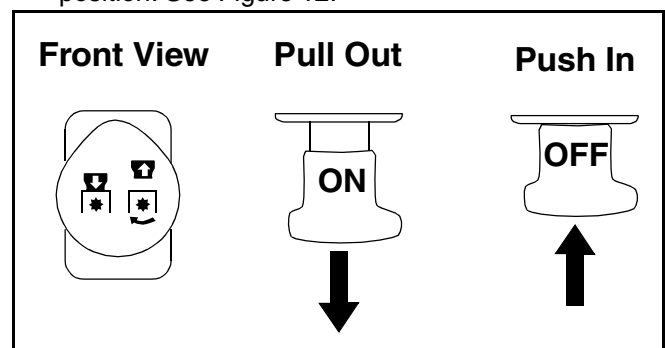

Figure 12
- Pull the PTO knob outward into the engaged (ON) position. See Figure 12.